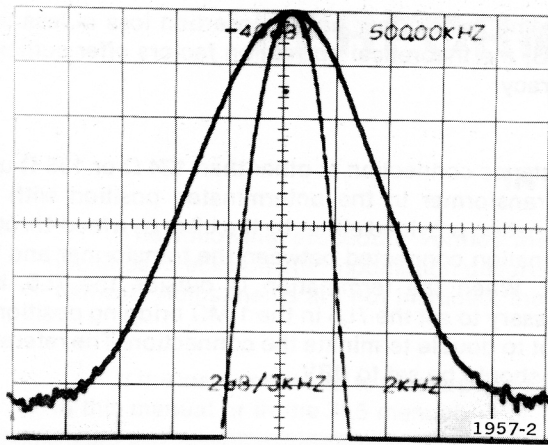

Fig. 2-1. Initial calibration waveform.
g. Repeat steps e and f until the displayed waveform is 8 vertical divisions in both the 10 dB/DIV and 2 dB/DIV modes. Refer to Fig. 2-1.